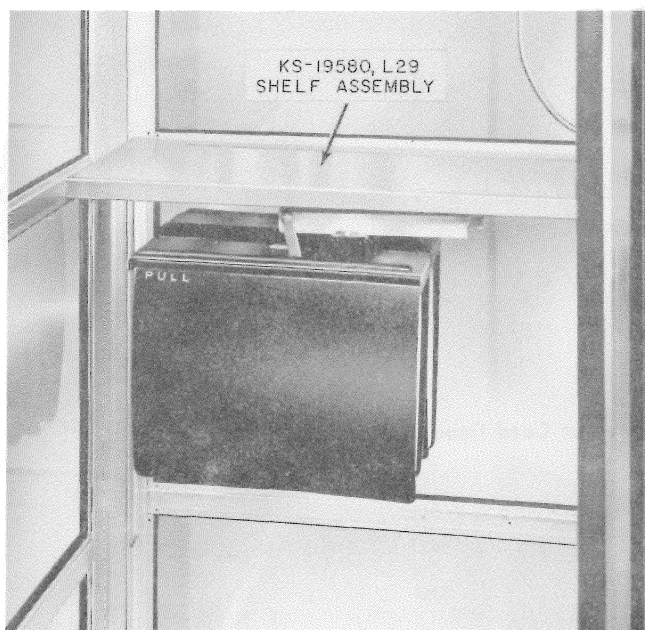

Fig. 8—KS-19580, List 29 Shelf Assembly with KS-20030, List 2 Directory Hanger
2.17 Unless otherwise specified, a KS-19580, List 29 shelf assembly is furnished with each booth (Fig. 8). The List 29 shelf will accept a